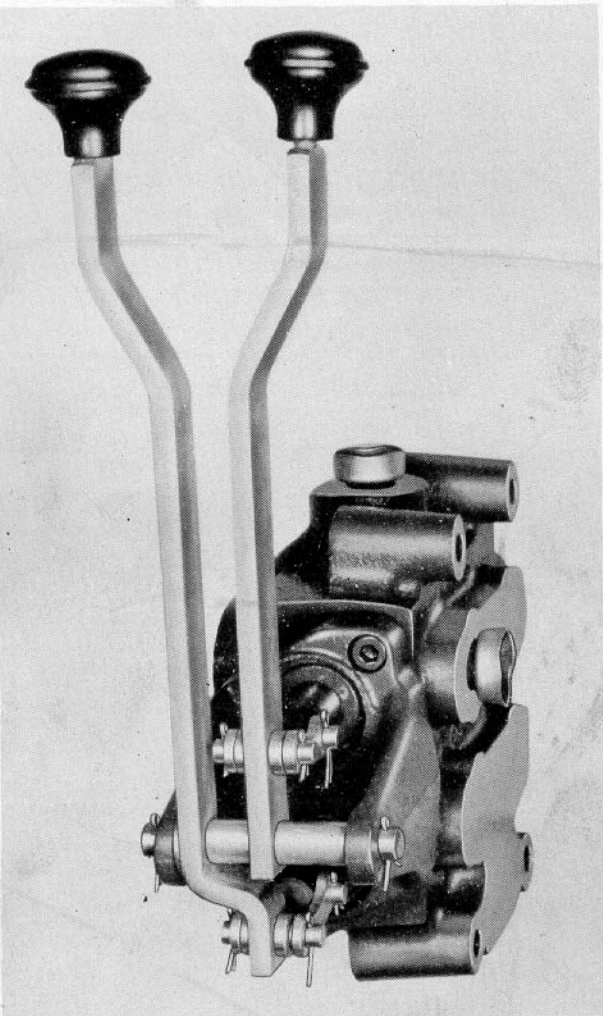

Figure 23
4. Attach the two levers to the control valve as shown in Figure 23. The small parts used in making this attachment are in the small bag in the carton in which the control valve is shipped.